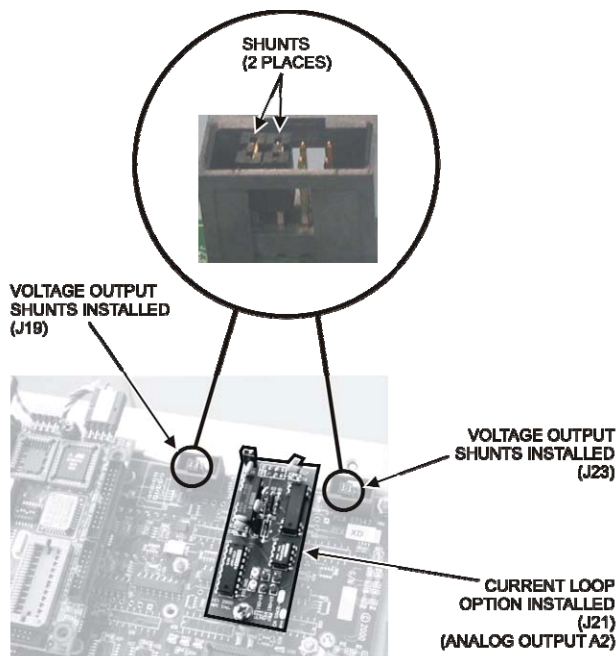

Figure 5-2: Current Loop Option Installed
5. Disconnect the current loop option PCA from the appropriate connector on the motherboard (see Figure 5-2).
6. Each connector, J19 and J23 requires two shunts. Place one shunt on the two left most pins and the second shunt on the two pins next to it (see Figure 5-2).